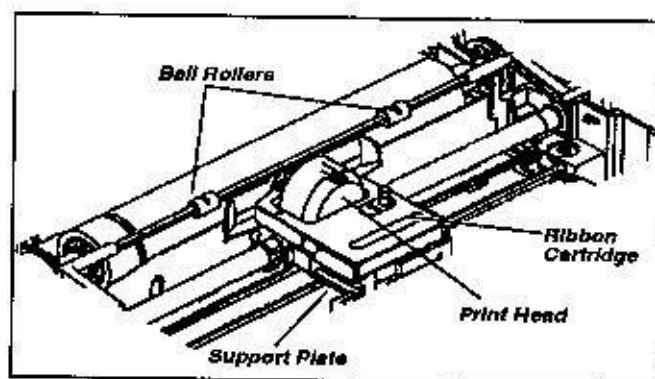

Figure 3-3
3. Push the print head to the center of the carriage so it is away from the bail rollers. Make sure the bail is closed (lever back - see Figure 3-3).